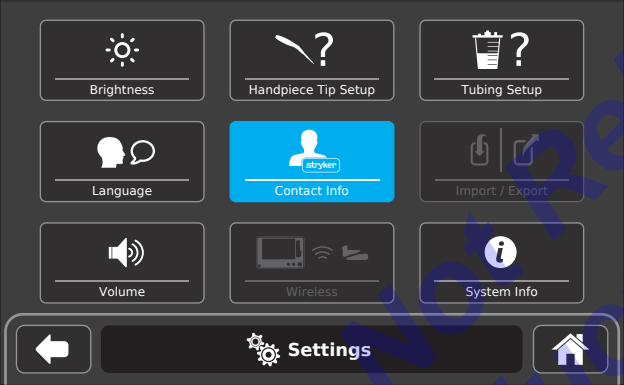

Figure 29 – Contact Info Selection
2. From the system SETTINGS screen, touch the CONTACT INFO button (Figure 29).